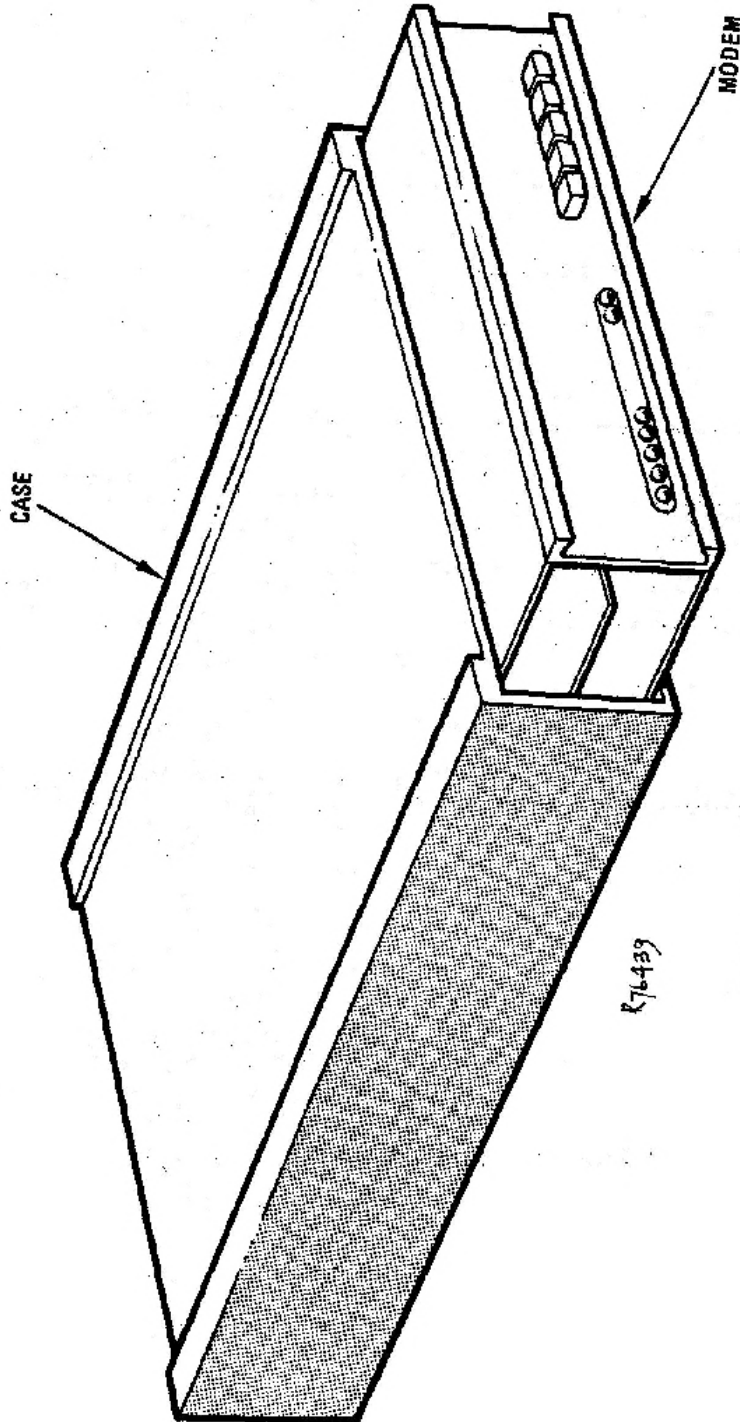

FIGURE 1: MODEM AND CASE ASSEMBLY
2.1 Modem Description The Modem 27A comprises a single 3-card unit housed in a metal case measuring 147 mm wide, 50 mm high and 320 mm deep - see Figure 1.
Fig 1 follows